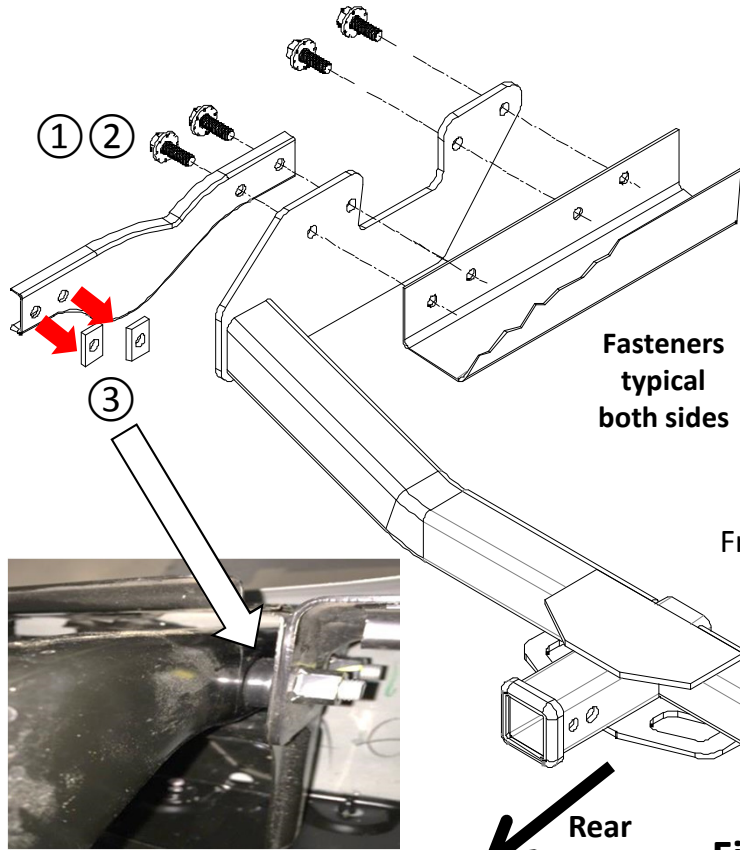
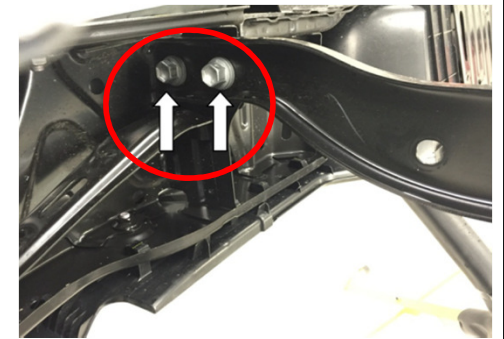

Figure 1
Figure 4
3. Bumper reinstallation – remove (2) M12 bolts that attach mounting bracket to bumper, see Figure 4. Reinstall the bumper mounting bracket with a spacer ③ inside, see Figure 1, 4,5. Loosely insert M12 bolts ① and conical washers ② through (2) forward holes of bumper mounting bracket and sandwich the hitch bracket with vehicle frame, see Figure 1.